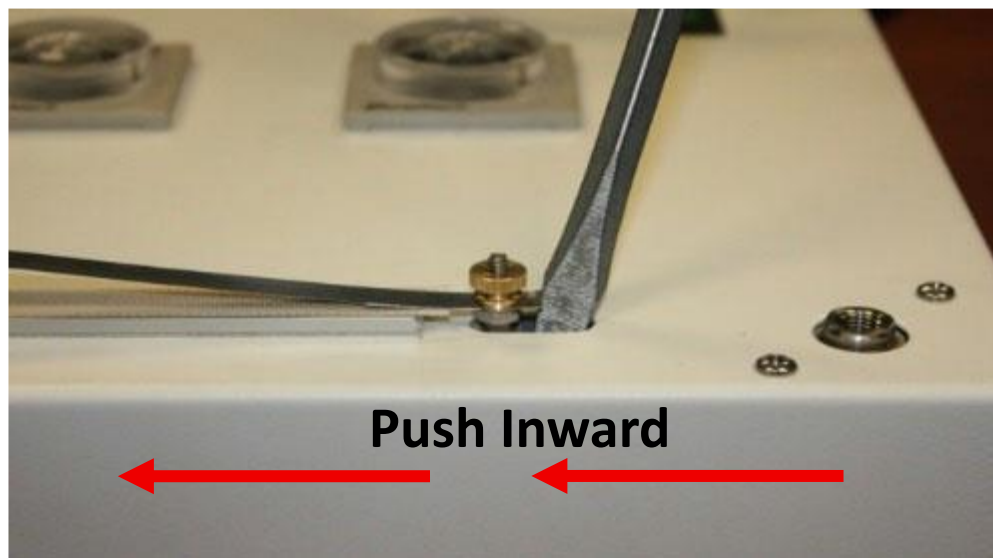

Figure 13
5. To remove the heating element, press the right element post assembly inward. You can use a large flat screwdriver to hold it in the compressed position (see figure 13). In a compressed position, remove old heating element and washers below it, one on each post.
Please read carefully. Not doing so, will result in a short-life element, breaking on the left side post. Keep the right post in a compressed position using a large screwdriver. This will keep the element without tension through the steps. See Figure 13.
3. Place the new Heating Element over the Right-Element-Post Assembly. The folded side of the heating element goes downward but make sure the folded side rests on top of the 1/2" Teflon tape. Make sure you have the Right-Element-Post Assembly in a compressed position for this step. See figure 13.